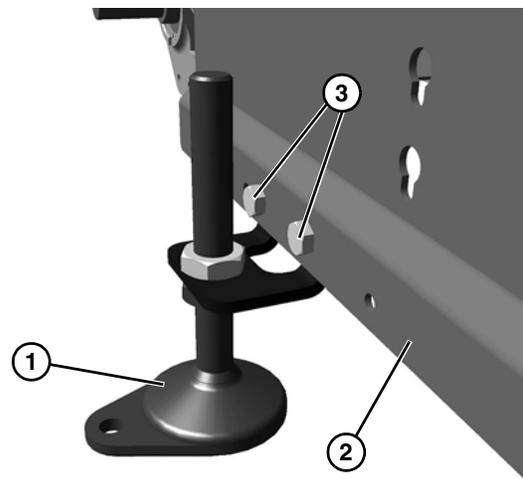

Figure 5
<p>Failure to secure screws (Figure 5, item 3) may cause conveyor sections to drop down causing severe injury.</p> <p>TIGHTEN SCREWS (Figure 5, item 3) AFTER ADJUSTMENT.</p>
- Attach the foot pad stand (**Figure 5, item 1**) to the conveyor (**Figure 5, item 2**) and tighten the two bolts (**Figure 5, item 3**).